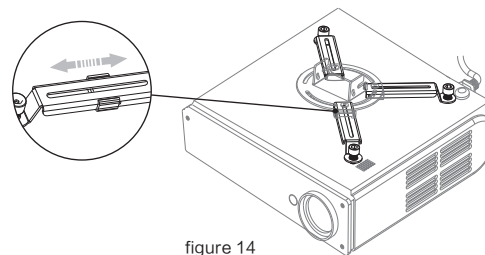

figure 14
2. If there are 3 holes, the installation arms (4-2) need to be taken apart from installation bracket firstly. Connect 3 installation arms (4-2) to the projector, and then connect the installation arms (4-2) to the installation base (4-5) However, the installation base needs to be the center of projector. Figure 14.